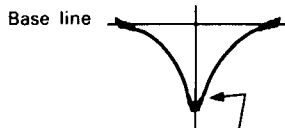

Fig. 10
1. Feed in a weak signal from the genescope. Adjust T202 for maximum gain and the waveform of Fig.10.